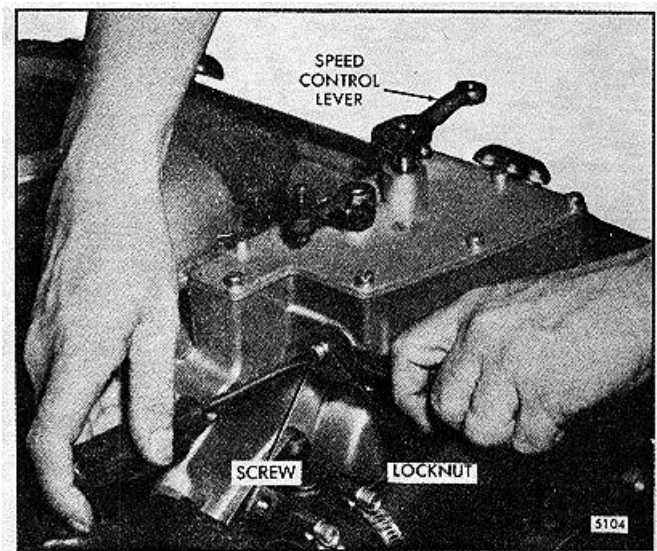

FIG. 12 - Adjusting Buffer Screw
1. With the engine running at normal operating temperature, turn the buffer screw (Fig. 12) in so it contacts the differential lever as lightly as possible and still eliminates engine roll.